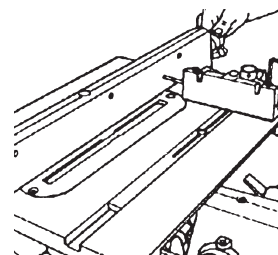

Figure 65
5. Move the Rip Fence toward the Allen Wrench until it just touches it. When it does touch the Fence, lock the Base Knob, as in Figure 65.